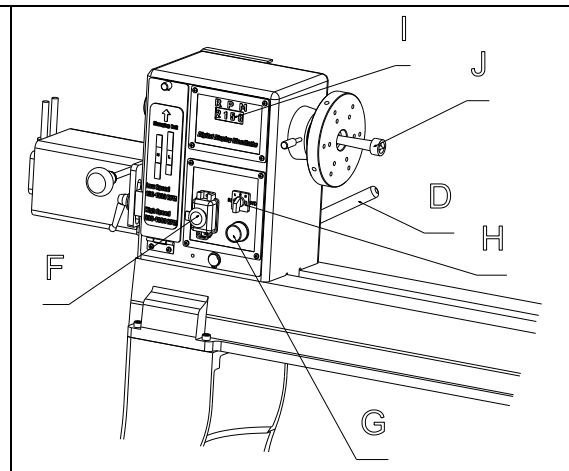

Fig. 4
1. Headstock Lock Handle: (D, Fig.4) Locks head in position. Unlock handle to position the head along lathe bed. Tighten handle when properly positioned.
- 2.. Headstock On/Off Button: (F, Fig.4) Pull the button out to turn "ON" the lathe. Push the button in to turn the lathe "OFF".
3. Headstock RPM Knob: (G, Fig. 4) Turn knob to desired RPM. There are two speed ranges offering "speed" (330-3200) and "torque" (100-1200).
4. Headstock For/Rev Switch: (H, Fig. 4) Use the toggle switch to change the direction the spindle turns. Only change direction when the spindle has stopped.
5. Headstock RPM Readout: (I, Fig. 4) Displays the spindles RPM, see Figure 5.